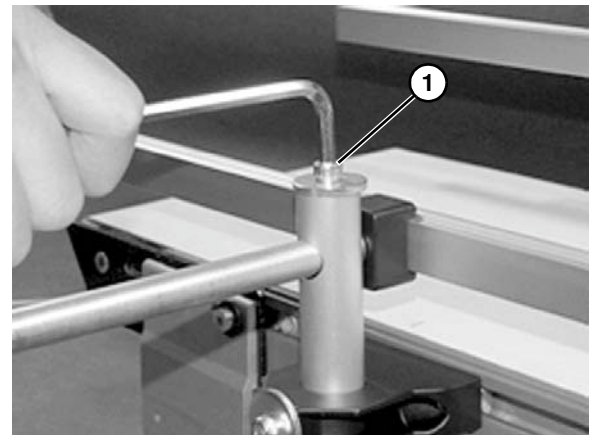

Figure 25
6. Adjust rail width with top screw (**Figure 25, item 1**).